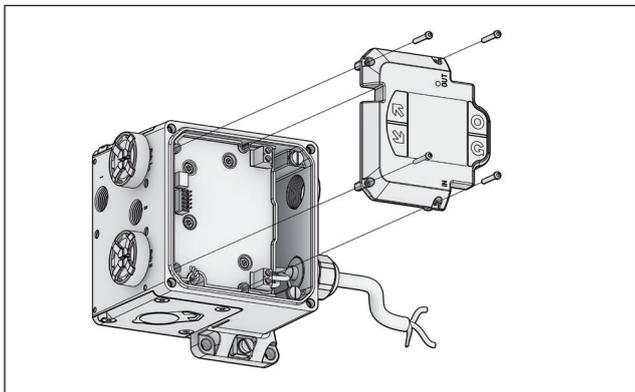
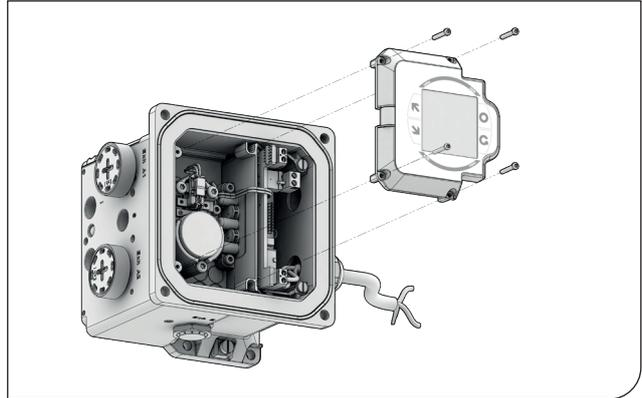

Fig. 108. NDX1510_
Fig. 109. NDX_511_ and NDX_512_
- Loosen the display screws and remove display. (Fig 108, Fig 109)